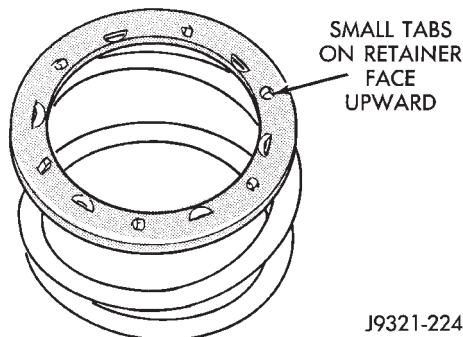

Fig. 212 Correct Spring Retainer Installed Position
(6) Position spring retainer on top of piston spring (Fig. 212). **Make sure retainer is properly installed. Small raised tabs should be facing upward. Semicircular lugs on underside of retainer are for positioning retainer in spring.**